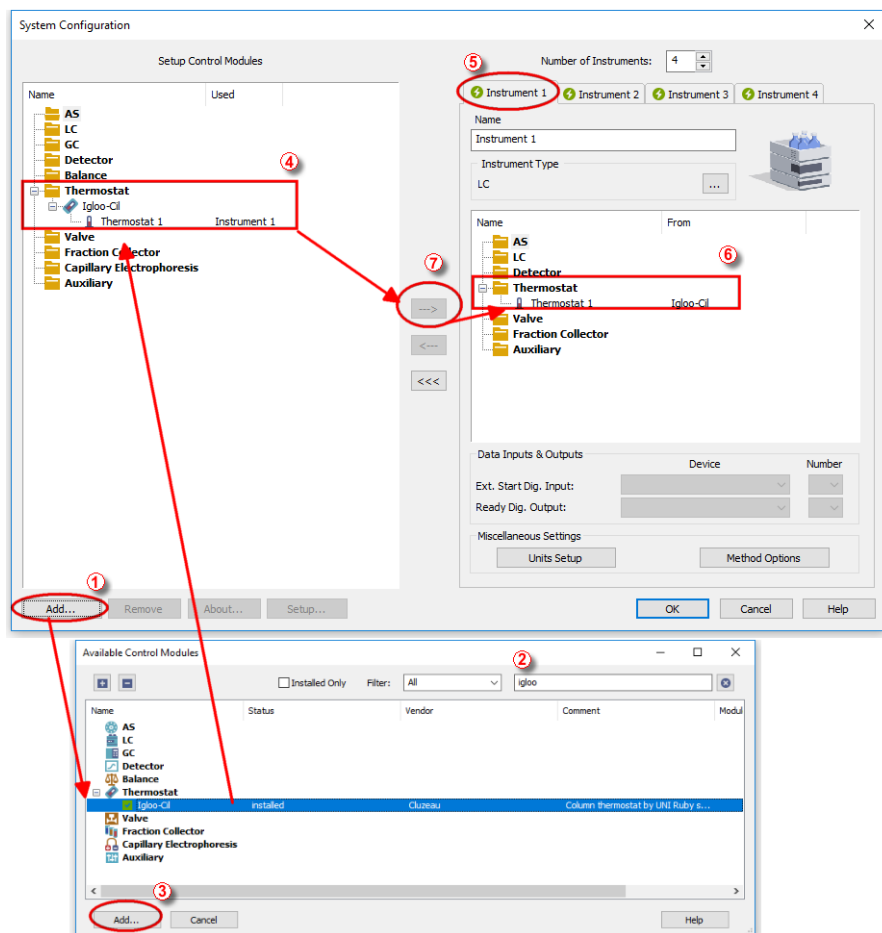

Fig. 3: How to Add Cluzeau Igloo-CIL module
- Press the **Add** button (① on Fig. 3 on pg. 4.) to invoke the *Available Control Modules* dialog.
- You can specify the search filter ② to simplify the finding of the driver.
- Select the correct item and press the *Add* (③ on Fig. 3 on pg. 4.) button. Each device with already created UNI profile should have its own item named accordingly in the *Available Control Modules* dialog.